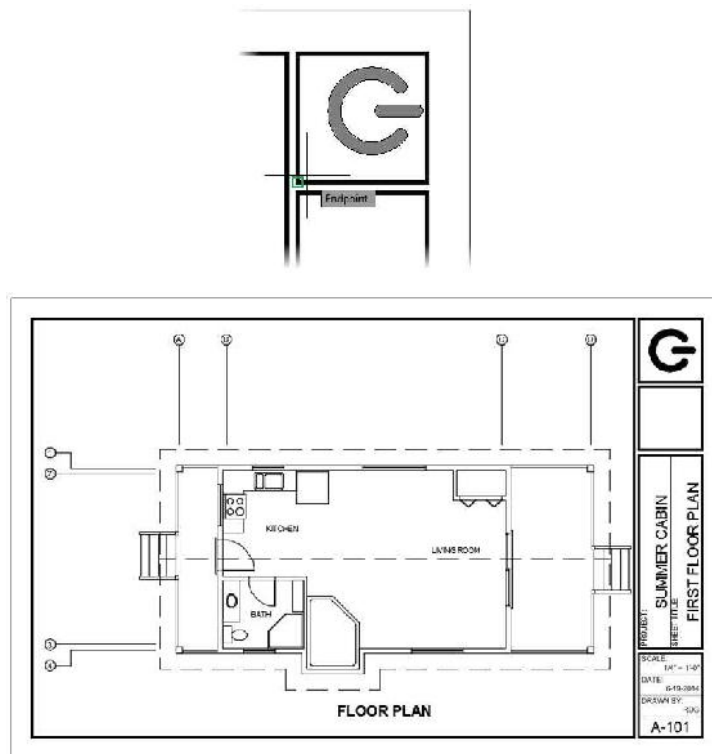

FIGURE 8.55: Inserting the title-block logo (top) and the completed title block (bottom)
- d. Using the Endpoint osnap, pick the lower-left corner of the uppermost title-block box (see Figure 8.55).